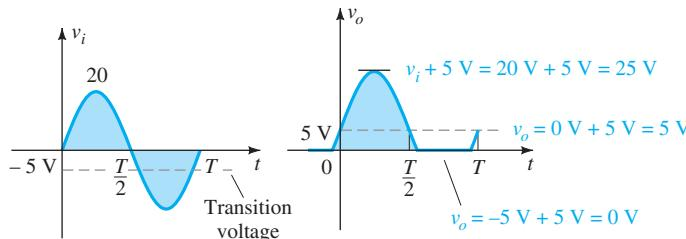

FIG. 2.76
Step 4: In Fig. 2.76 a horizontal line is drawn through the applied voltage at the transition level. For voltages less than -5 V the diode is in the open-circuit state and the output is 0 V , as shown in the sketch of v_o . Using Fig. 2.76, we find that for conditions when the diode is on and the diode current is established the output voltage will be the following, as determined using Kirchhoff's voltage law: